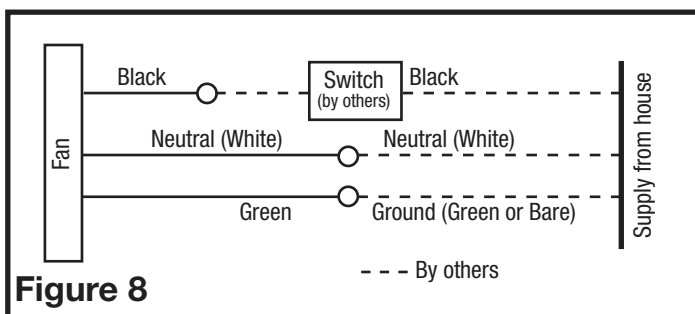

Figure 8
- 2b. From where you have chosen to access the fan's junction box, connect the white wire from the house to the white wire from the fan's receptacle. Connect the black wire from the wall switch to the black wire from the fan's receptacle. Connect the ground wire from the house to the green wire from the fan housing (**Figure 8**). Use approved methods for all connections.